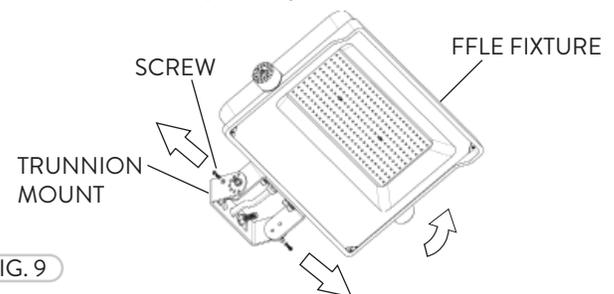

FIG. 9
4 The Trunnion Mount can be rotated. Loosen the center Cap Head Screws (2) and remove the smaller Cap Head Screws to adjust the tilt angle of the FFLE fixture to point towards the desired angle. Replace the smaller Cap Head Screws and tighten all of the Cap Head Screws to hold the fixture in place (Fig. 9).